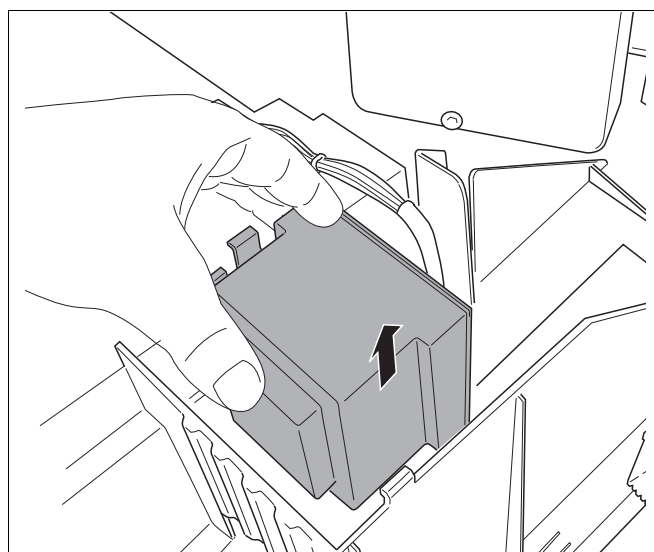

fig. 68 Removing the transformer
- Remove the transformer by pulling it in the direction indicated by the arrow (see fig. 68).